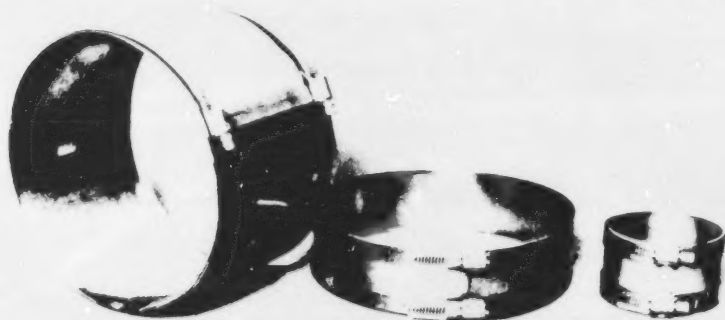

Figure 37-17.
56. IBVS couplings are manufactured in accordance with industry standards using 301 stainless steel, and the manufacturer states that they exceed all industry standards for material thickness and weight. These couplings feature a specially designed lip that captures the neoprene gasket and prevents creep and cold-flow, thus preventing the loss of torque. Rigidity is given as another advantage. IBVS couplings are made in sizes NPS 2 to NPS 8. (See Figure 37-17.)